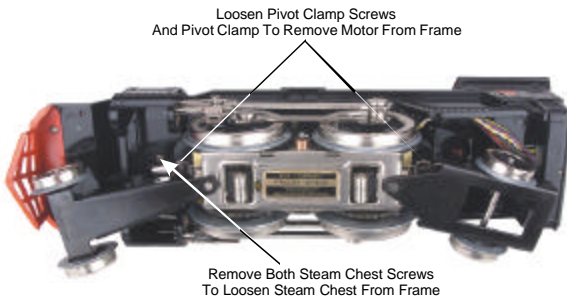

Figure 7: Removing the body from the chassis
1. To access the drive train, remove the cab from the chassis by loosening the (2) screws located on either end of the motor chasis as seen in Figure 7. Once loosened, remove the (2) steam chest screws located under the leading truck and gently lift the drive train out of the boiler.